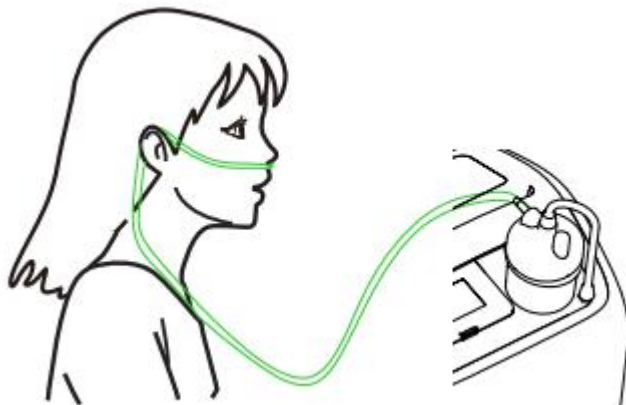

Figure 8
- d. Attach the oxygen tubing directly to the humidifier bottle outlet fitting.(Figure 8)